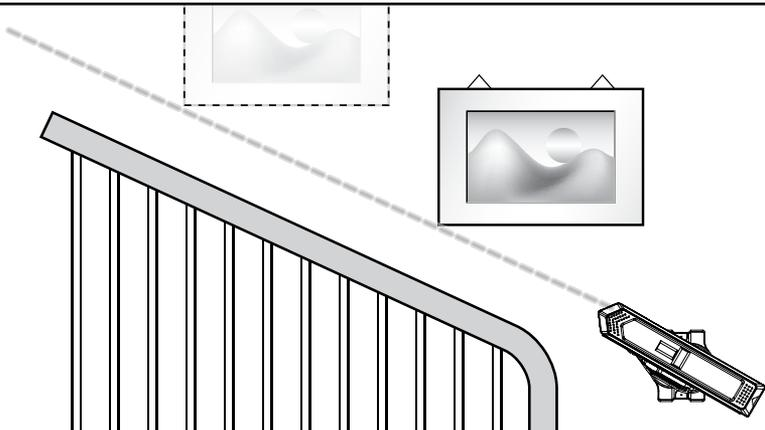

FIG 5
- For horizontal point applications, place the tool on the Base with the Magnets (7) facing the Point Metal Surface (12) and the Aluminum Surface facing the Line Metal Surface (11). See figure 5.